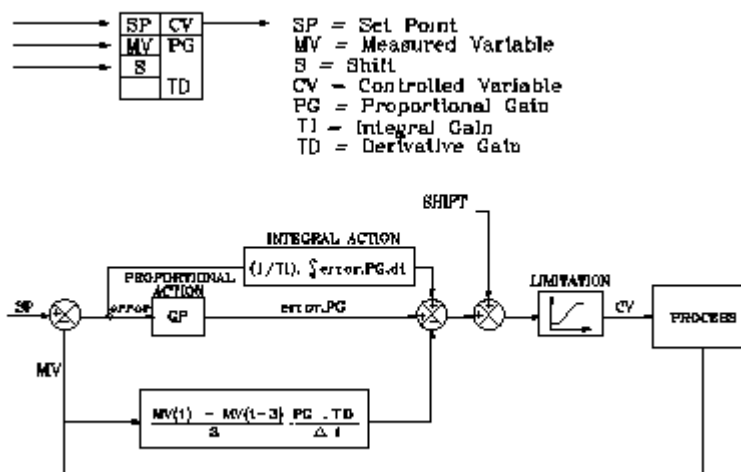

Figure 4-6 Diagram in Blocks of the Function PID
The function **F-PID.033** implements the proportional control algorithm, integral and derivative. Starting from a measured variable (MV) and from the required set point (SP) the function calculates the Controlled variable (CV) for the system controlled. This value is calculated periodically, taking into consideration the proportional, integral and derivative factors programmed. The function's blocks diagram is shown in figure 4-6.